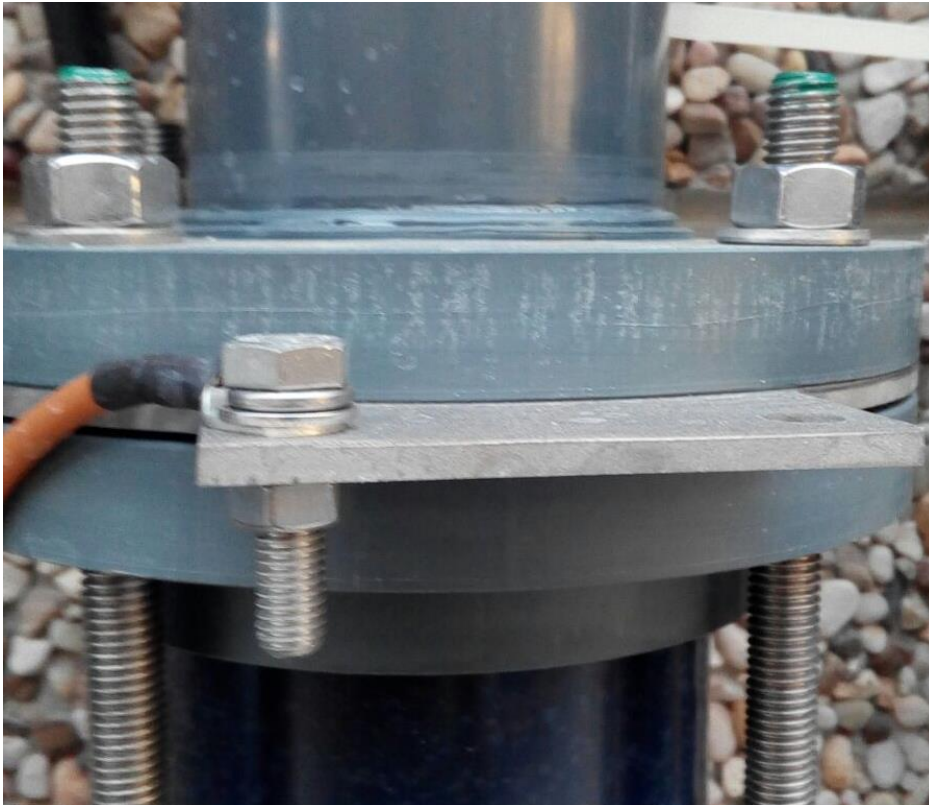

**Figure 3.3: Auxiliary connection board**
- **Connect the "FILTER" input of the auxiliary board (see figure 3.3) to the filtration pump contactor. This contactor must supply 230V to the "FILTER" input at the same time that the pump is turned on. The power requirements for the "FILTER" input is only a few miliamperes.**